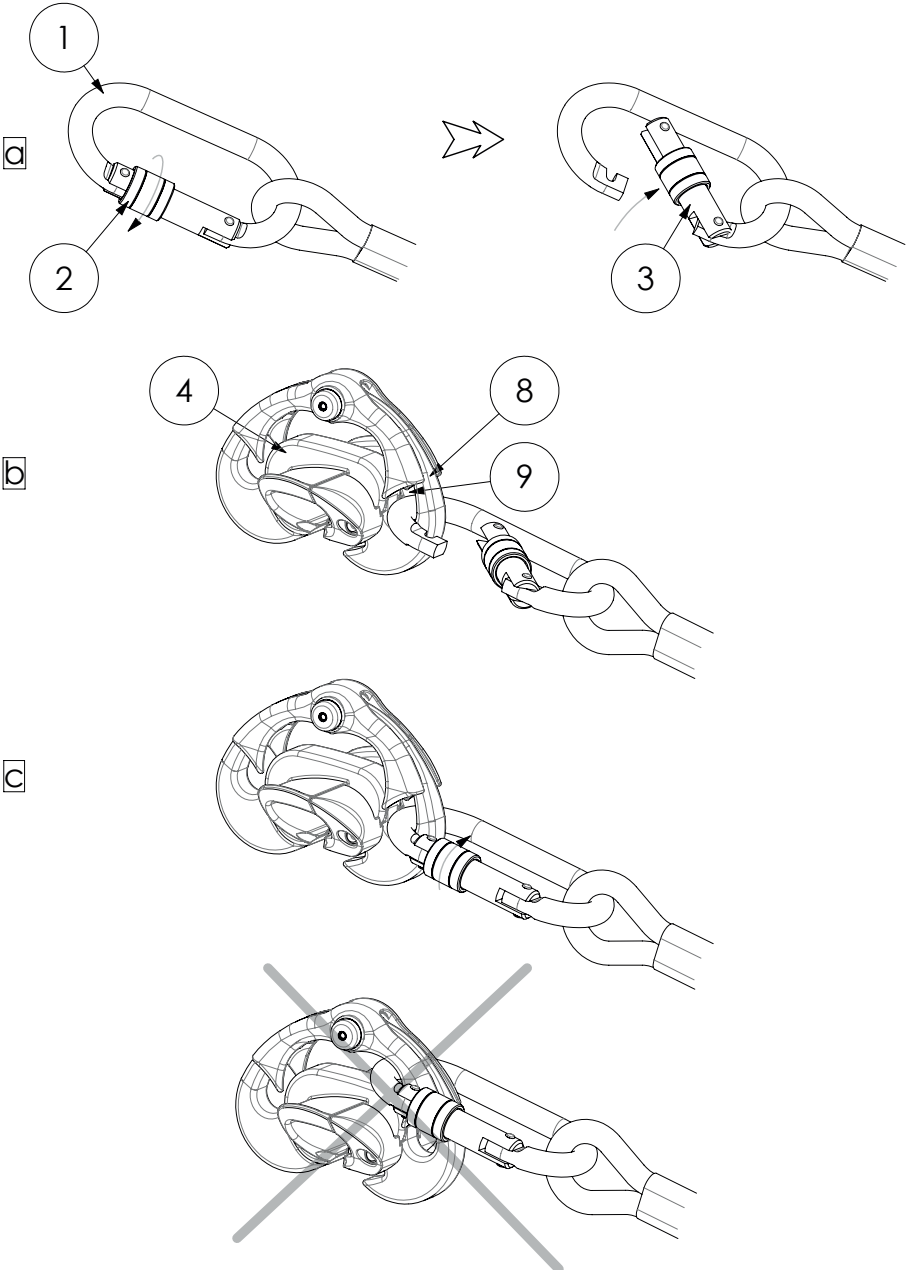

Fig. 2
Installation of travsmart traveller (fig. 2) on lifeline.
- a. Unlock the jaws (fig. 2, item 6) by acting on the lock (item 5).
- b. Swivel the jaws (fig. 2, item 6) toward the inside of the traveller then release the lock (fig. 2, item 5).
- c. Insert the travsmart lifeline wire rope (fig. 2, item 10) in the opening of the traveller then release the jaw (fig. 2, item 6).
- d. Check that the jaws (fig. 2, item 6) are correctly secured by the lock (fig. 2, item 5).